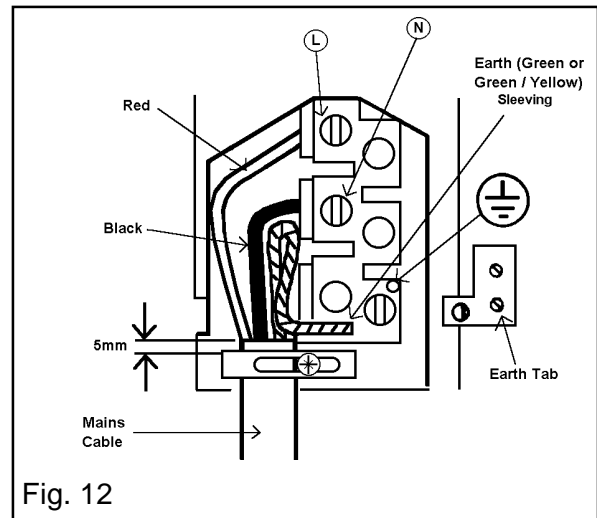

Fig. 12
- Make connection as shown in Fig. 12 by proceeding as follows:-
- Clamp the mains cable securely ensuring 5mm of the outer insulation is inside the terminal block and that the wires are not taut but not so slack as to cause any fouling. See Fig. 12.